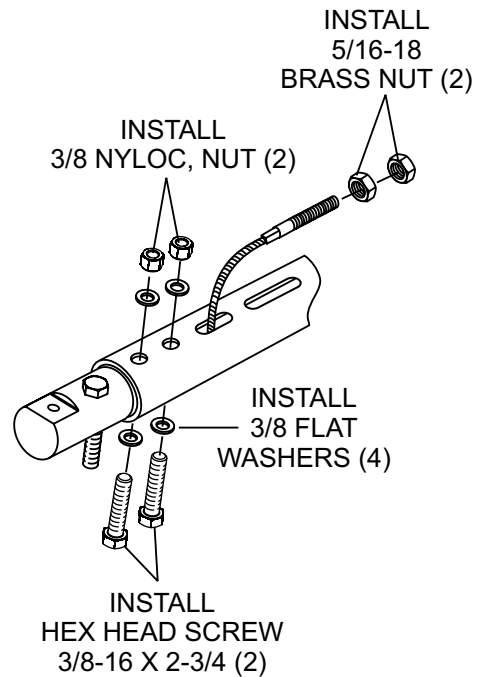

Figure 8. Securing the HD Block
- Install Hex Head Screws (3/8-16 x 2 3/4") from bottom. Secure with flat washers and 3/8" locking nuts until snug as shown in Figure 8.
- Install brass nuts back onto the end of the cable. See Figure 8.